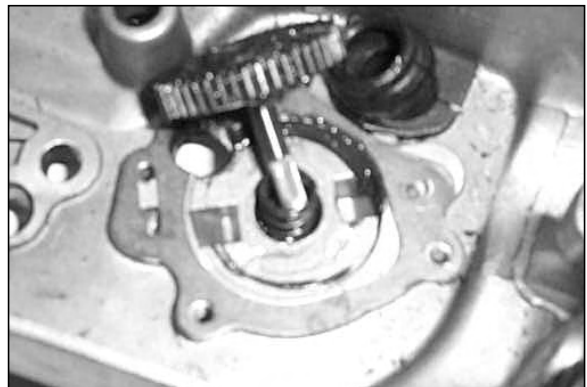

Fig. 75
- (g) Take out piston pump gear alongwith connected parts (washer and spring) fig.75